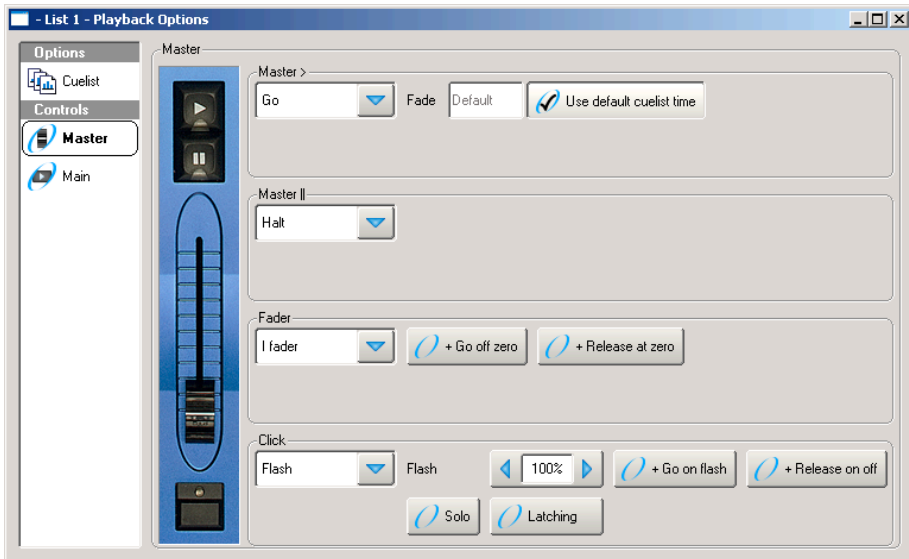
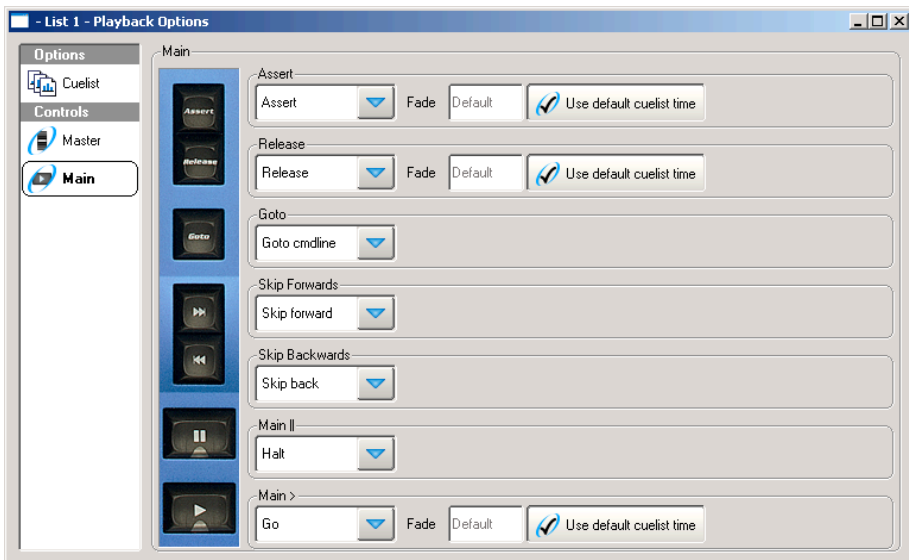

Figure 27.2. The Master pane of the Cuelist Options window
Figure 27.3. The Main Controls pane of the Cuelist Options window
3. Under Controls, select the Master or Main Controls pane; see *Figure 27.2, "The Master pane of the Cuelist Options window"* and *Figure 27.3, "The Main Controls pane of the Cuelist Options window"*.